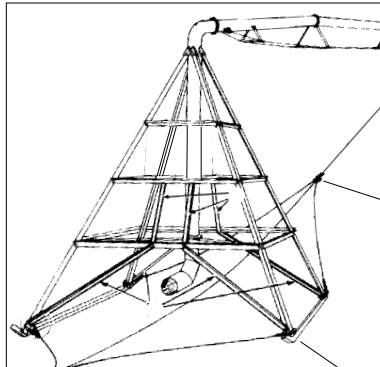

Figure 24-2 Skid Tow Pivot
- Skid Tow Pivot. See figure 24-2.